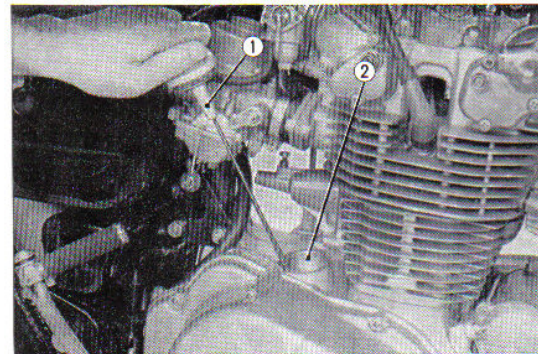

Fig. 6.30 Oil cap
- a. Remove the oil cap and drain plug on the bottom of the crankcase and drain all the engine oil. (Fig. 6.30 and 31)